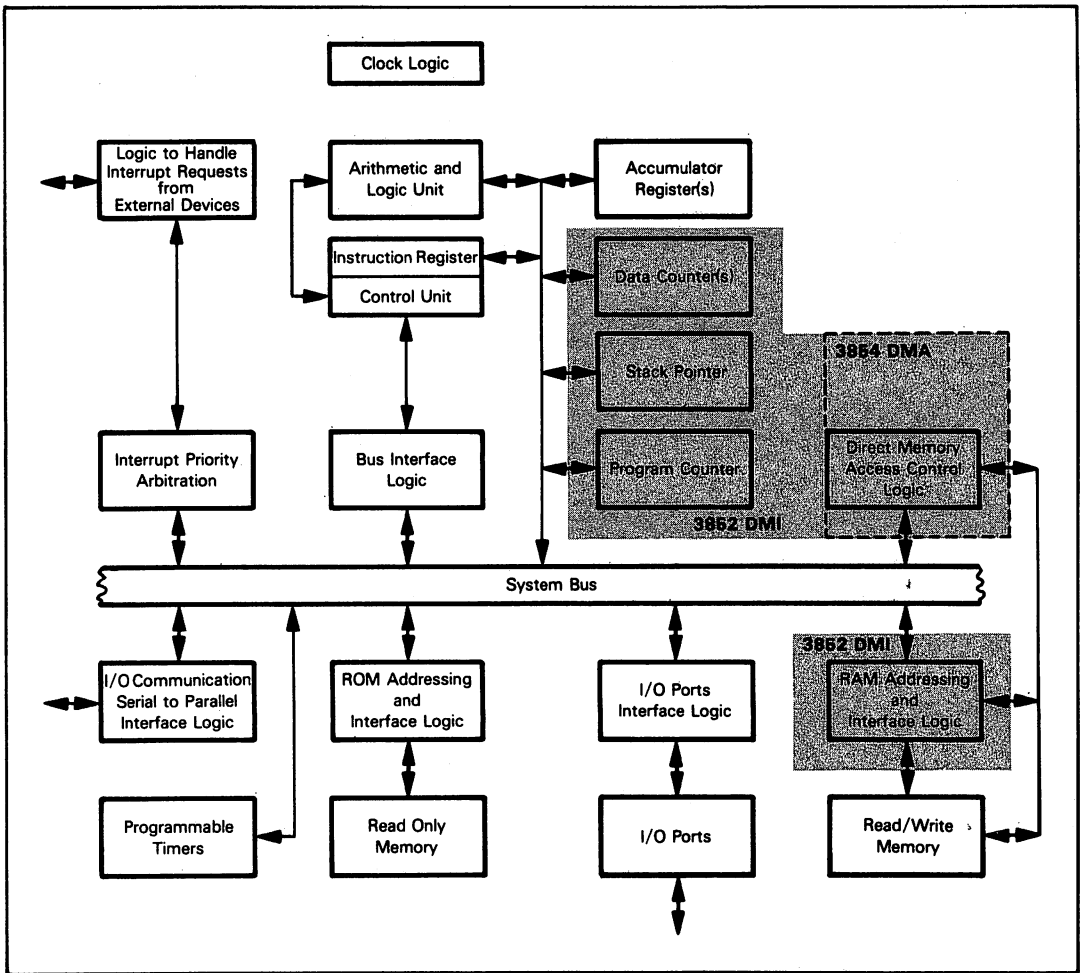

Figure 2-12. Logic of the Fairchild F8 3852 Dynamic Memory Interface (DMI), and of the 3854 Direct Memory Access (DMA) Devices
**Because of the way in which the F8 microcomputer system is organized, however, memory refresh and direct memory access logic are closely related. That is why, in Figure 2-12, a small part of the direct memory access control logic is shown as being implemented on the 3852 DMI chip.**